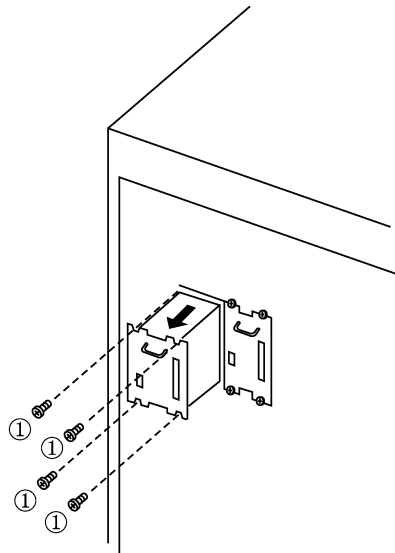

Figure 3-4 Removing the Unit Power Supply
- (1) Remove all cables connected to the unit power supply.
- (2) Remove the four screws on the front of the unit power supply (① in Figure 3-4).
- (3) Pull the unit power supply toward you to remove it.